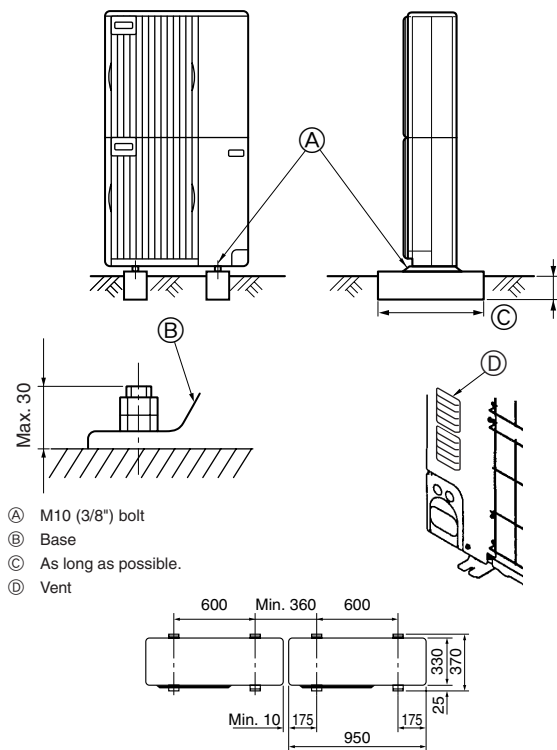

Fig. 3-1
• Be sure to install the unit in a sturdy, level surface to prevent rattling noises during operation. (Fig. 3-1)